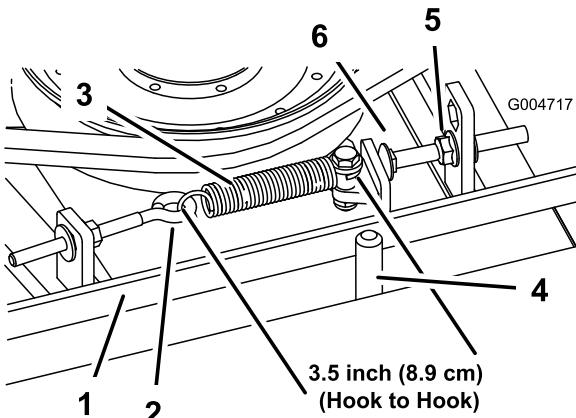

Figure 66
When properly tensioned, the extension spring (hook to hook) measurement should be approximately $8.9 \text{ cm} \pm .63 \text{ cm}$ ($3.50 \pm .25 \text{ inch}$) (inside). Once the correct spring tension is attained, adjust the stop bolt (carriage bolt) until there is approximately $.32 \text{ cm} \pm .152/.000 \text{ cm}$ ($.125 + .060/- .000 \text{ inch}$) clearance between the head of the bolt and the idler arm (Figure 66).
Note: Make sure the belt is positioned on the spring side of the belt guide (Figure 66).
2. Loosen the eye bolt allowing the removal of the extension spring (Figure 66).
3. Loosen the flange nut securing the stop bolt to the mounting tab. Back off the nut enough to allow the idler arm to pass by the stop bolt (Figure 66). Move the idler pulley away from the belt to release belt tension.
8. Reconnect the extension spring (Figure 66) to the eye bolt and tension the belt as follows: